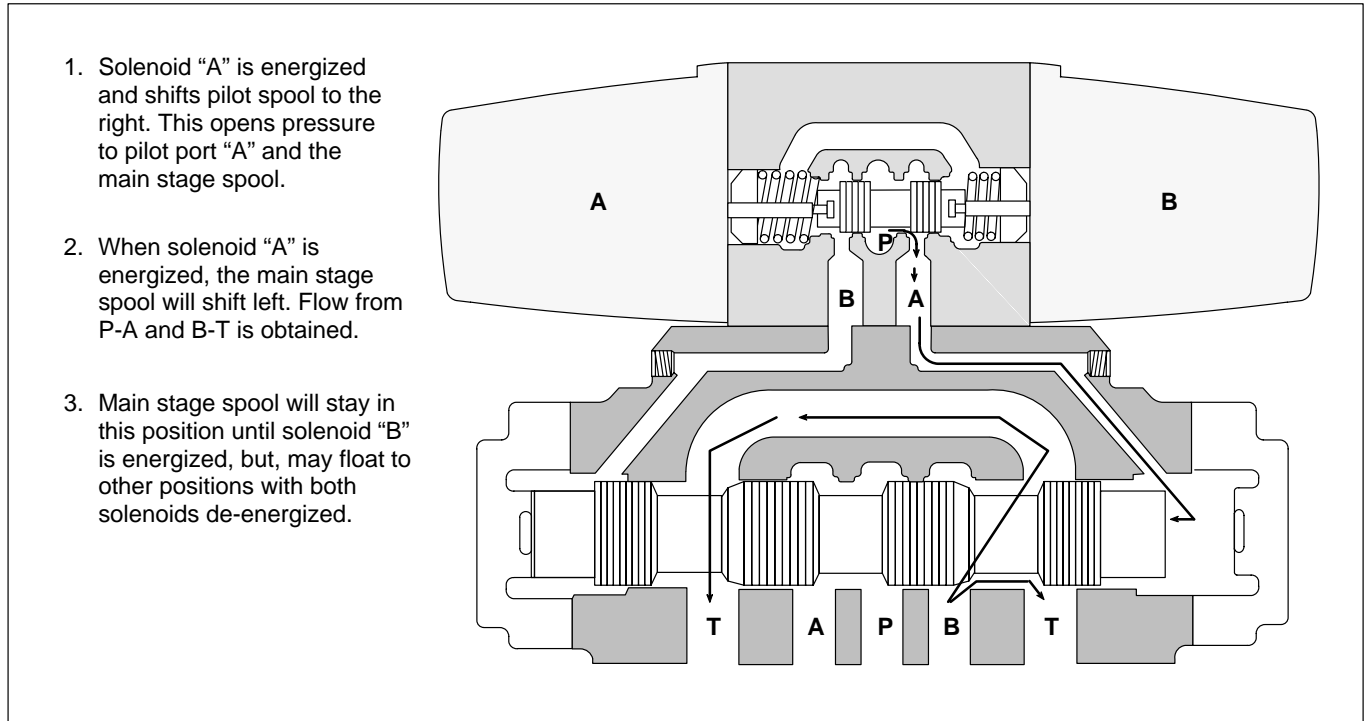

Figure 4. No Springs, Floating Model
3. Integral Pilot Valve: The integral pilot type two stage valve is a very common valve used in the field today. Two stage valves allow large volumes of fluid to be switched to and from an actuator with minimum power required for control. Reference Figures 4 through 8, shown in the following section.
1. **No Spring-Floating:** When centering springs are omitted from the main stage spool, the spool is said to be floating. If control pressure is removed, a floating spool can move from its last position under the influence of gravity or tank line pressure. This must be considered during the design of the system. Units with floating type spools have the model code letter omitted. (Example: DG3S4/DG4S4-062-**-51) Figure 4 illustrates floating spool positioning in a two-stage valve.